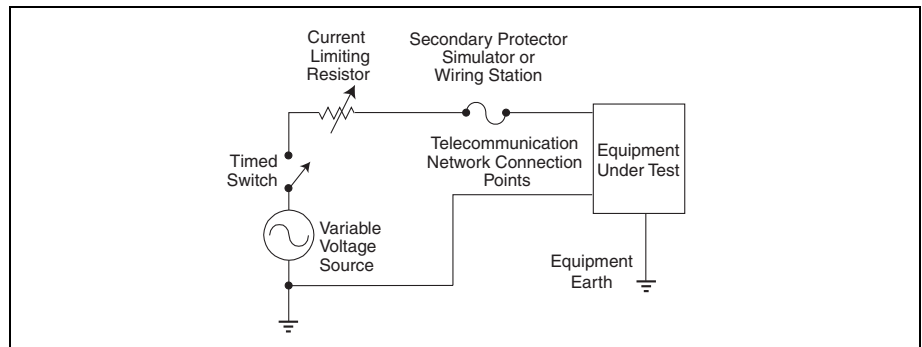
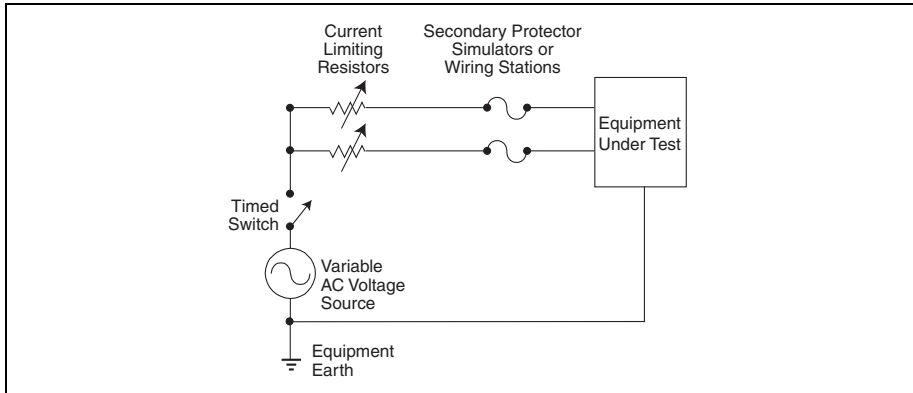

Figure 4.6 Metallic Connection Appearances
Figure 4.7 Longitudinal Connection Appearances
- Figure 4.6 and Figure 4.7 show the M (metallic) and L (longitudinal) test connections.